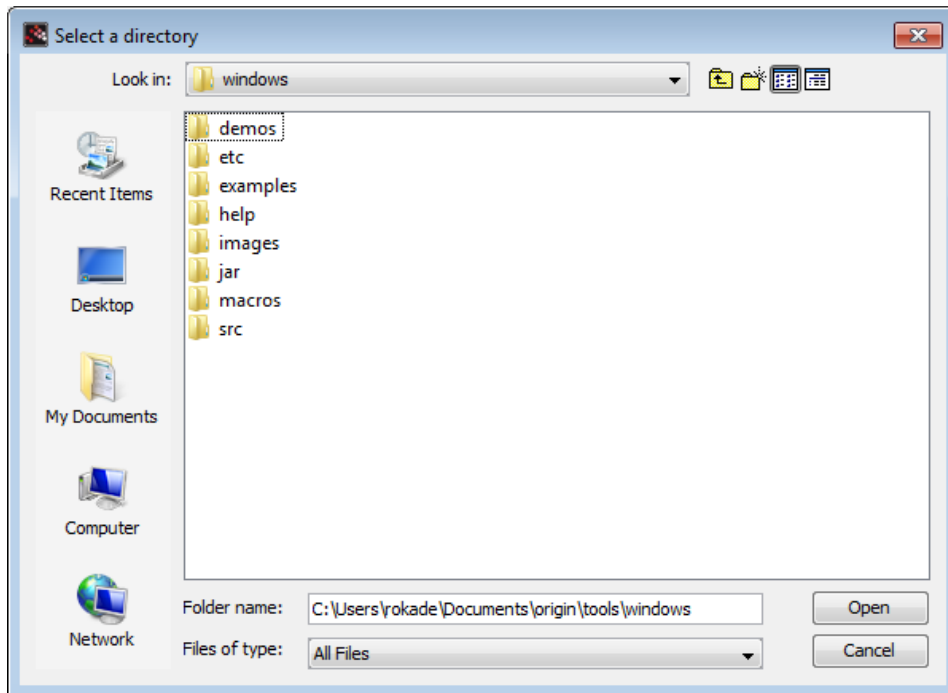

Figure 3.7: Browsing toolbox directory
3. Then, one has to browse to the toolbox folder **Origin/tools/scilab/windows** or **Origin/tools/scilab/linux**, as the case may be, and click on, **Open**, as shown in Fig. 3.7.